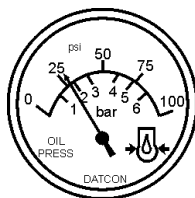

Figure 29. Oil Pressure Gauge
13. The engine oil pressure gauge (Figure 29) will indicate the oil pressure (kg/ cm²) of the engine. Under normal operating conditions the oil pressure is approximately 25 psi.